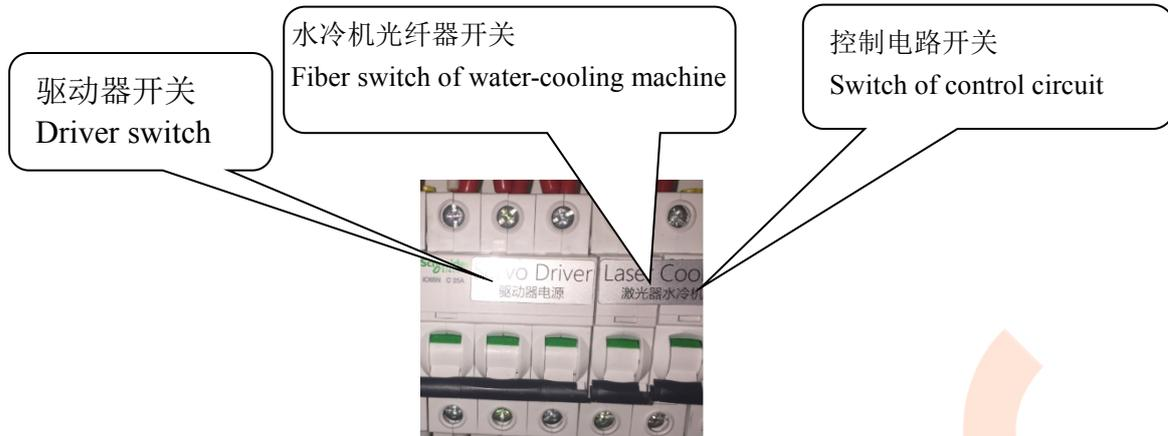

Fig. 2.5
2. Turn on the switch of control circuit and button of industrial personal computer, then, turn on the drive switch to power on the servo drive (see Figure 2.5).